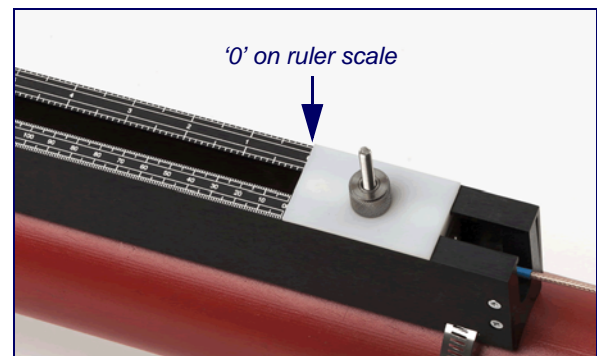

Figure 2.10
6. Carefully slide the transducer assembly along the guide rail until the inner edge of the nylon flag is aligned with the '0' mark on the guide rail scale, as shown in Figure 2.10. Then lower the transducer onto the pipe by turning the thumb screw anti-clockwise.